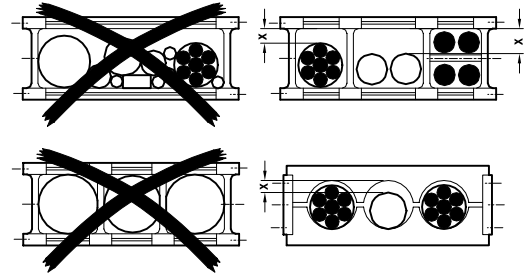

Fig. 1
3. Lay the cables loose next to each other in the chain links, if possible separated from each other by separator links or holes. Observe the play "X" of the cables of 10% of the cable diameter. Avoid arrangements with cables on top of each other if separator links are not used (see Fig. 1)